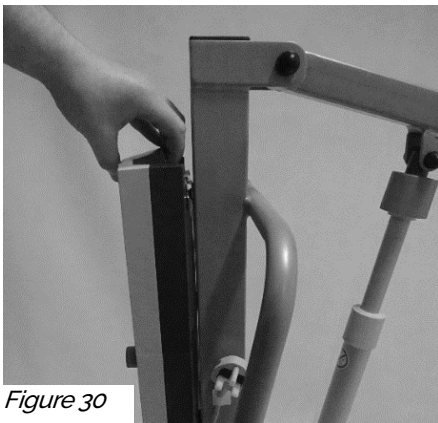

Figure 30
1. Grab Hold of the Battery from the top position as shown in figure 30 and place your fingers onto the latch.